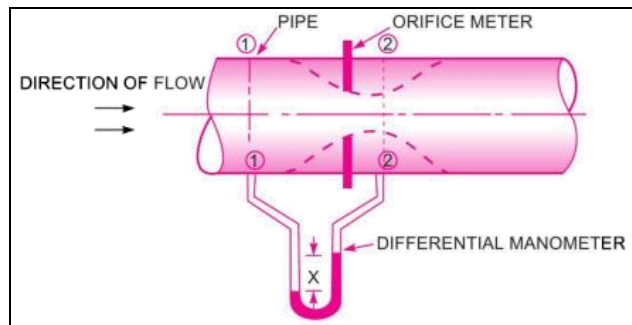

Fig:2 Orifice meter
2.1 Determine the coefficient of discharge for fluid flow at different operating conditions like partially opened, half opened and fully opened within a pipeline as shown in Fig 2.